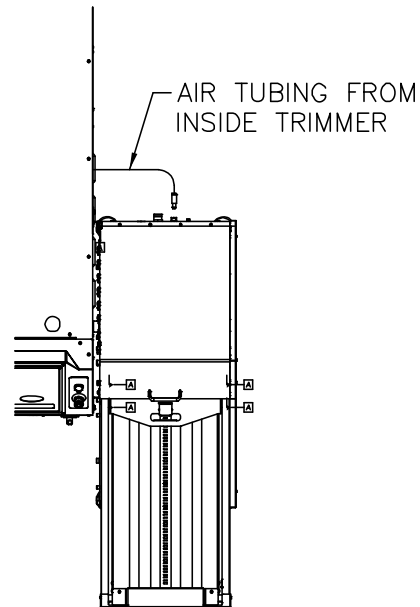

Figure 2-34. Air Tubing Connection
7. Connect the air tubing as shown in Figure 2-34.